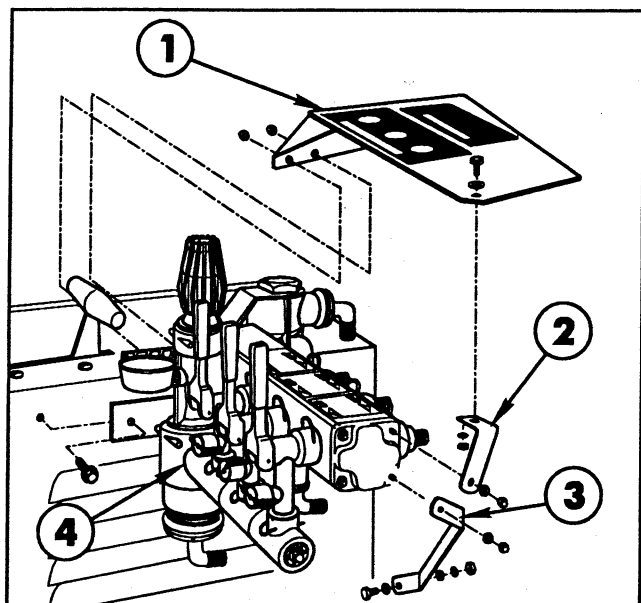

FIG. 3
1. Attach Control Valve/Mounting Bracket Assembly to left side of Seat Box using two (2) 1/4" x 5/8" hex washer hd machine screws. See FIG. 3.
2. Remove top two (2) acorn nuts from right end of Control Valve. Attach Splash Shield to the end of Control Valve using two (2) previously removed acorn nuts. **DO NOT TORQUE OVER 30 IN LBS (3.4NM).** See FIG. 3.
3. Remove upper rear acorn nut from left end of Control Valve. Attach Shield Brace and secure with flat washer and previously removed acorn nut. Mount Shield Brace to Shield with 5/16" hex hd cap screw, flat washer, lock washer, and hex nut. **DO NOT TORQUE OVER 30 IN LBS (3.4NM).** See FIG. 3.
4. Remove lower rear acorn nut from left end of Control Valve. Attach Valve Brace and secure with flat washer and previously removed acorn nut. Attach other end of Valve Brace to middle slot in rear of Seat Box with 5/16" hex hd cap screw, flat washer, lock washer, and hex nut. **DO NOT TORQUE OVER 30 IN LBS (3.4NM).** See FIG 3.